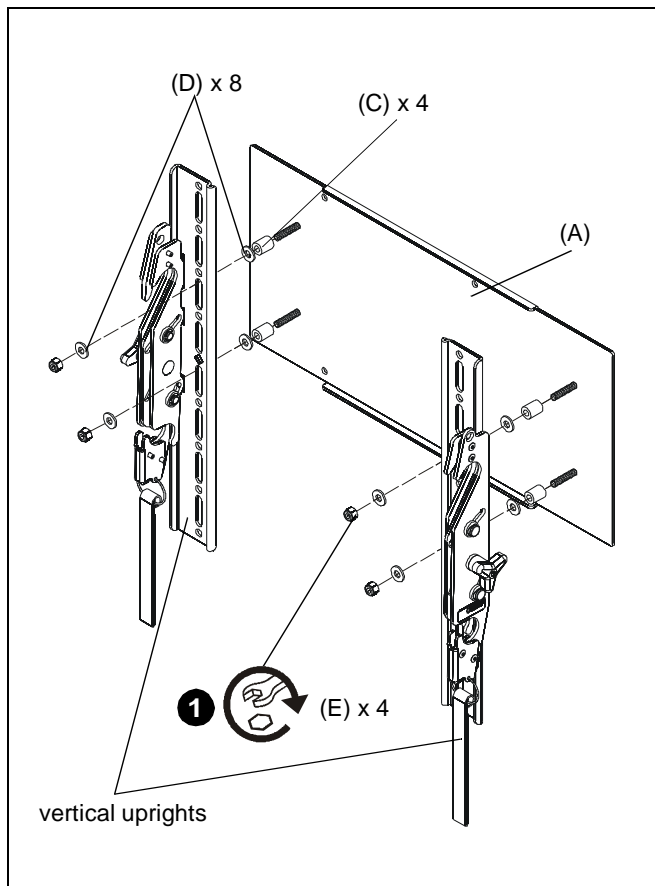

Figure 1
1. Attach vertical uprights to FSB3537 interface bracket (A) using four 1/4-20" lock nuts (E), eight 1/4" washers (D) and four spacers (C). (See Figure 1)